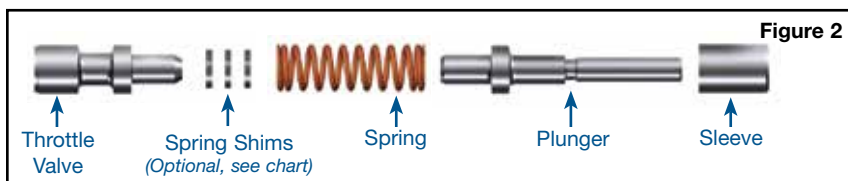

Figure 2
- Install any desired shims over spring stem of Sonnax throttle valve, install in valve body spring stem outboard (**Figure 2**).
- Install Sonnax spring (**Figure 2**).
- Install Sonnax throttle plunger and sleeve (**Figure 2**).